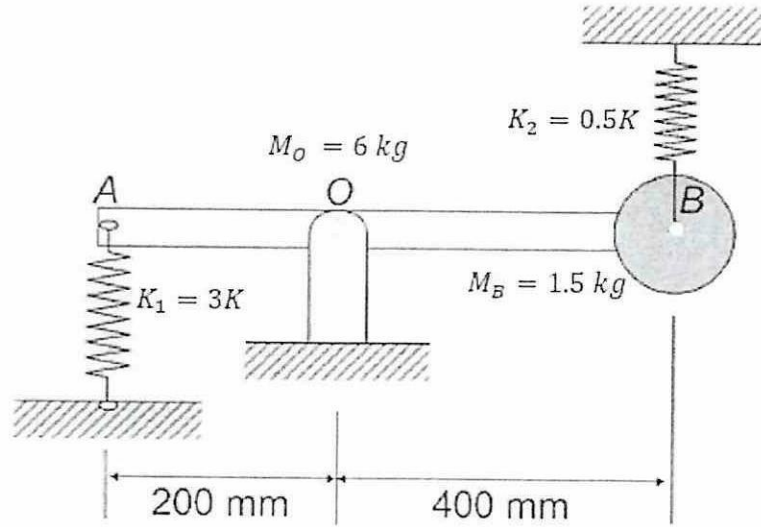

Figure Q1
- Q1** Figure Q1 shows mass of  $AOB$  bar,  $M_o$  is 6 kg. It has 130 mm of centrifugal radius measured from  $O$  to  $B$ . Two springs  $K_1$  and  $K_2$  are attached at point  $A$  and  $B$  with the stiffness coefficient is  $3K$  N/m and  $0.5K$  N/m. Point  $B$  also has a 1.5 kg mass connected between spring and bar.